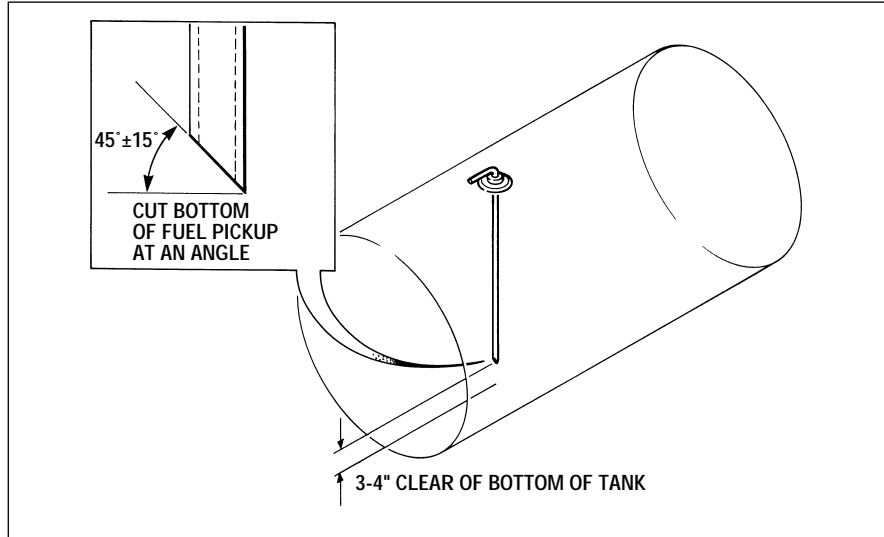

Figure 3-35 Fuel Pick-up Depth
1. Determine the depth of the fuel tank at the desired fuel pick-up location. Cut the fuel-pick up 3 to 4 inches shorter as shown in Figure 3-35.